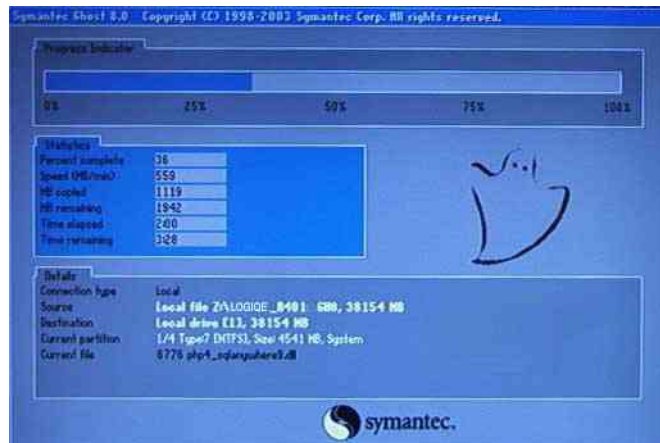

Figure 7-44 System CD loading
16.) Restart the system, and the system CD will be loaded as shown in Figure 7-44 on page 7-32 .